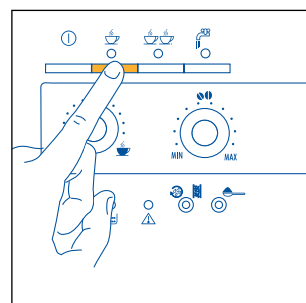
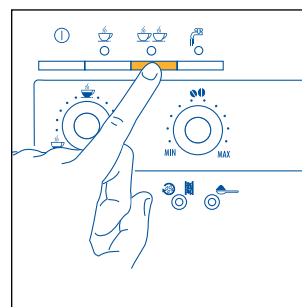

Fig. 12
Fig. 13
- 5) Press the  button (Fig. 12) to make one cup of coffee or the  button (Fig. 13) to make 2 coffees. At this point the machine grinds the beans, runs a short pre-infusion cycle, a pause and then completes the delivery.
NOTE 4: while the machine is making the coffee, the delivery can be stopped at any time by pressing the  button (Fig. 12) or  button (Fig. 13), as previously selected.
NOTE 5: as soon as delivery is complete, to increase the quantity of coffee, simply press and hold the  button (Fig. 12) or  button (Fig. 13), as previously selected, until reaching the desired quantity (this operation must be performed within 3 seconds from the end of the delivery of the coffee from the spouts).